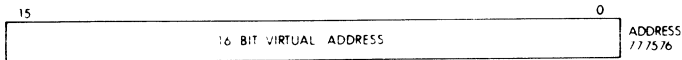

Figure 10-11 Format of Status Register 2 (SR2)
SR2 is loaded with the 16-bit virtual address (VA) at the beginning of each instruction fetch, but is not updated if the instruction fetch fails. SR2 is read-only; a write attempt will not modify its contents. SR2 is the virtual address program counter. Upon abort, the result of SR0 bits 15, 14, or 13 being set will freeze SR2 until the SR0 abort flags are cleared. The address of SR2 is  $777576_8$  and is illustrated in Figure 10-11.